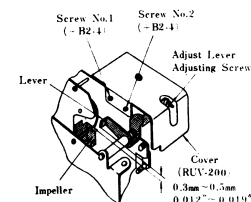
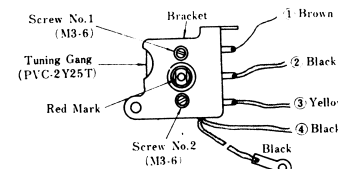

Fig. 3
Fig. 5
To Remove Auto-Tuning Mechanism Unit (Refer to Figs. 3~5)
3. Remove two (2) relay and relay cover mounting screws, Nos. 1~2, as illustrated in Fig. 3.
5. Unsolder leadwires, Nos. ①~④, to tuning gang, as illustrated in Fig. 5.
- (A) When stringing dial cord, refer to dial cord stringing instructions on page 4.
- (B) After mounting relay, adjust Lever Adjusting Screw (Fig. 3 of page 3).
To Remove Relay (Refer to Figs. 3 & 6)
2. Remove two (2) relay and relay cover mounting screws, Nos. 1~2, as illustrated in Fig. 3.
- (A) After mounting relay, adjust Lever Adjusting screw (Fig. 3 of page 3).
1. Wind the spring with the key (2 or 3 turns clockwise).
3. Adjust Lever Screw so that air gap between impeller and lever becomes 0.3 mm~0.5 mm (0.012"~0.019") as illustrated in Fig. 3.
6. Unsolder leadwires to tuning gang, (Nos. ①~④) as illustrated in Fig. 5.
7. Remove two (2) tuning gang mounting screws, Nos. 1~2, as illustrated in Fig. 5.
- (1) Set dial pointer to "10" of the dial scale.
- (2) Set tuning gang shaft so that red mark appears as illustrated in Fig. 5.